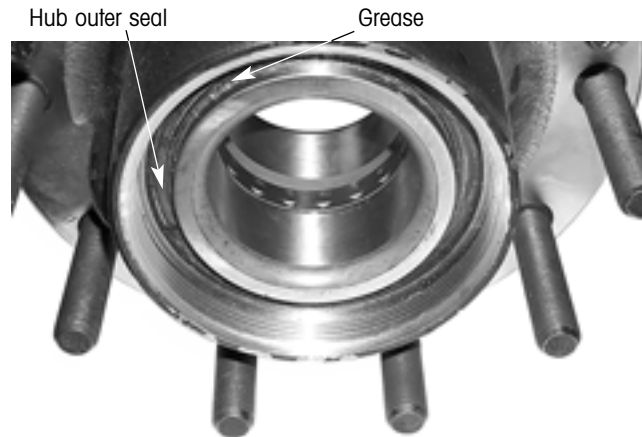

Figure 4. Normally present grease at hub outer seal
Small amounts of grease may also be visible on the other side of the hub at the hub outer seal (figure 4). **This is also a normal occurrence and does not indicate a seal leak.** However if a large amount of grease is visible, the seal is leaking and the hub should be replaced.
**NOTE:** With the outer nut, lockwasher, inner nut and washer removed, it is possible to see most of the hub outer seal. Small amounts of grease may be visible at the hub outer seal (figure 4). This is a normal occurrence and does not